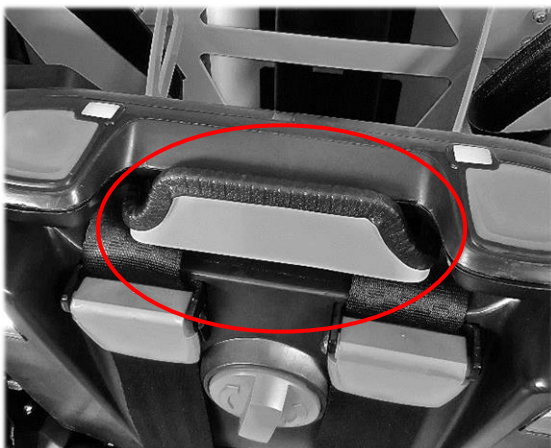

Figure 3: Bar clasp
2. Use your body weight to pull the system down until the central position locks. Do not pull on the bar clasp of the Xlevator (Fig. 3).